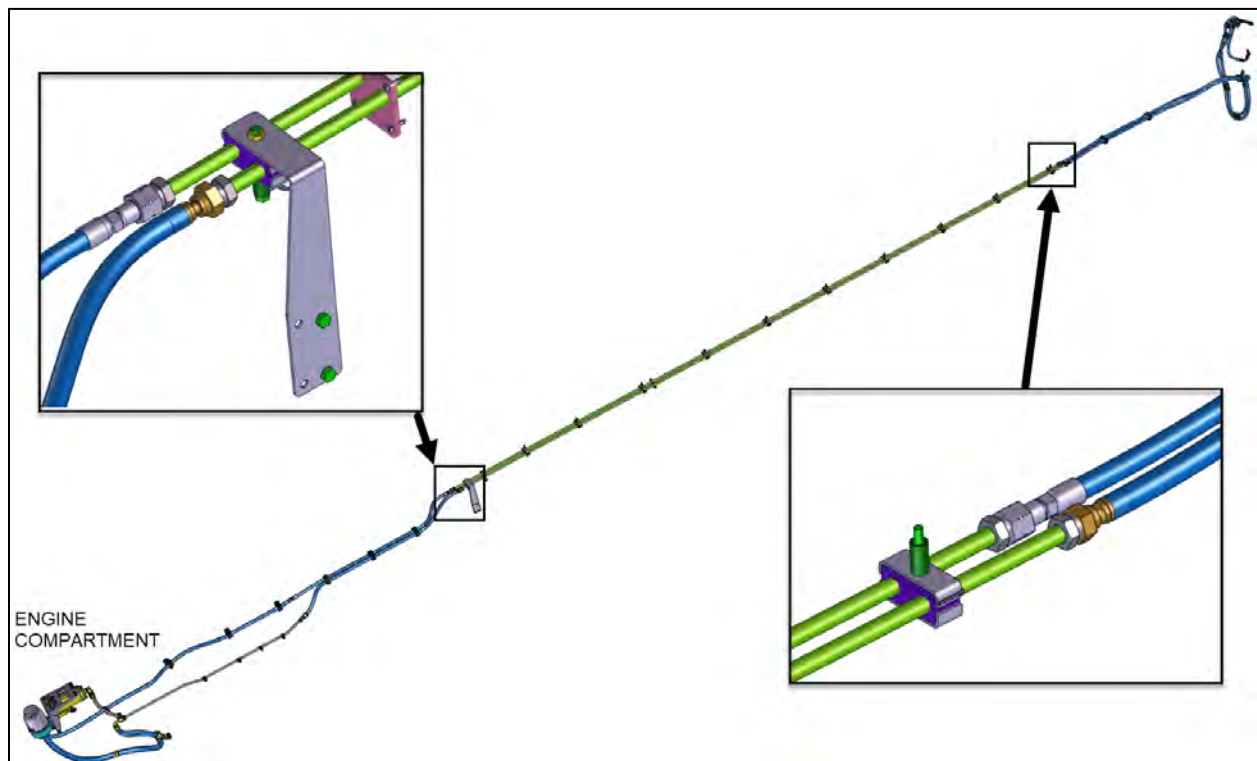

FIGURE 1
1. The power steering pressure and return pipes (green pipes on Figure 1) measure 20 ft long and are made of stainless steel. They are 5/8 OD.